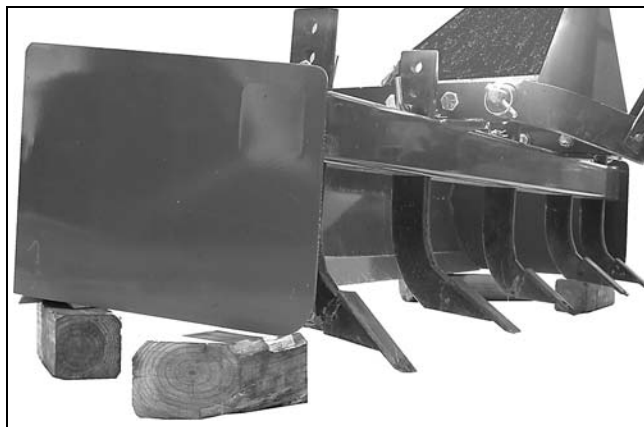

Figure 5. Box Scraper Blocked Up
1. Place two 4" x 4" (10 x 10 cm) blocks under each side frame of the box scraper as shown in Figure 5.
1. Block up machine by placing two 4" x 4" (10 x 10 cm) blocks under each side-frame of the box scraper (see Figure 5).